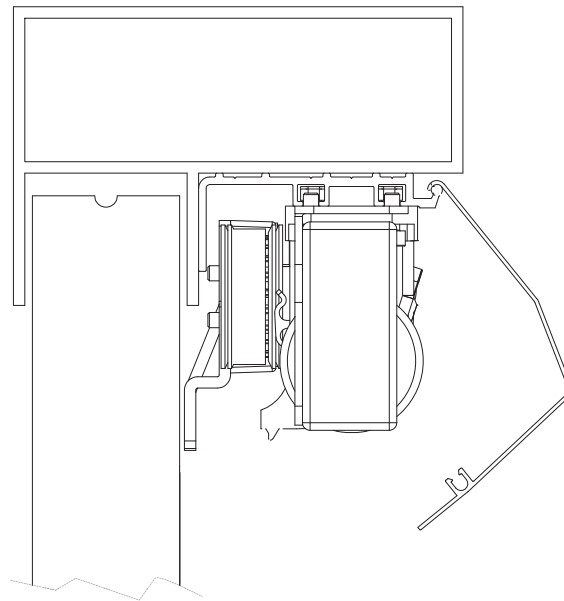

Figure 35: Clip the cover over the base.
4. Mark the three bracket holes on the door (Figure 35) then drill 0.25" (6 mm) holes in the door at those positions.
Clip the cover over the base to cover the MultiDrive mechanism (Figure 35).